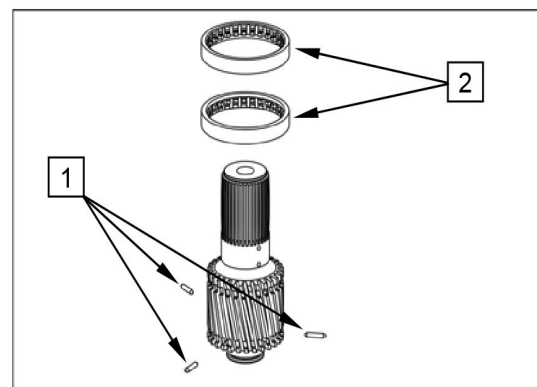

Figure 663
**Installation position of pressure rings – see Figure 663!**